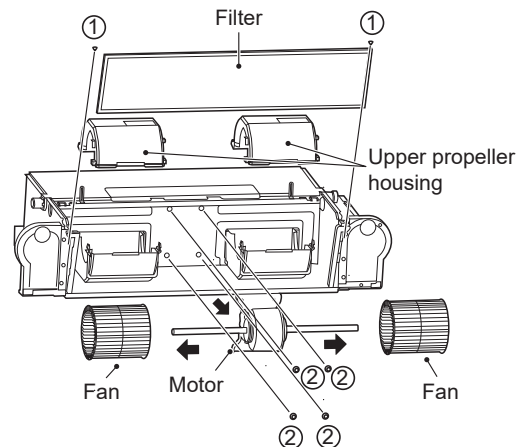

Figure 4-5 Removal of filter, upper volute and motor screws
- c) As shown in Figure 4-5, remove screws ①\*2 to take the filter out.